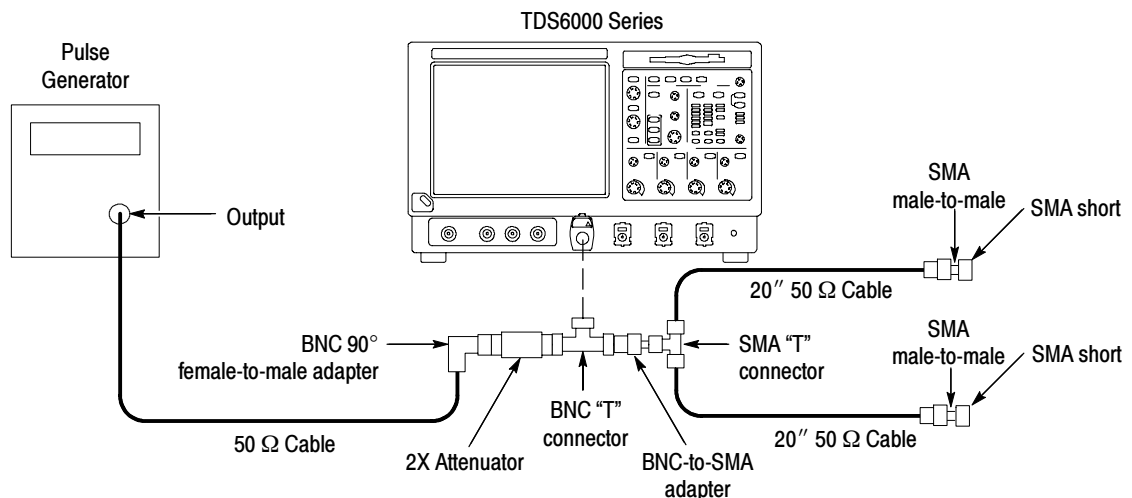

Figure 4-23: Delta time accuracy test hookup
b. *Hook up the pulse generator (see Figure 4-23 on page 4-59):*